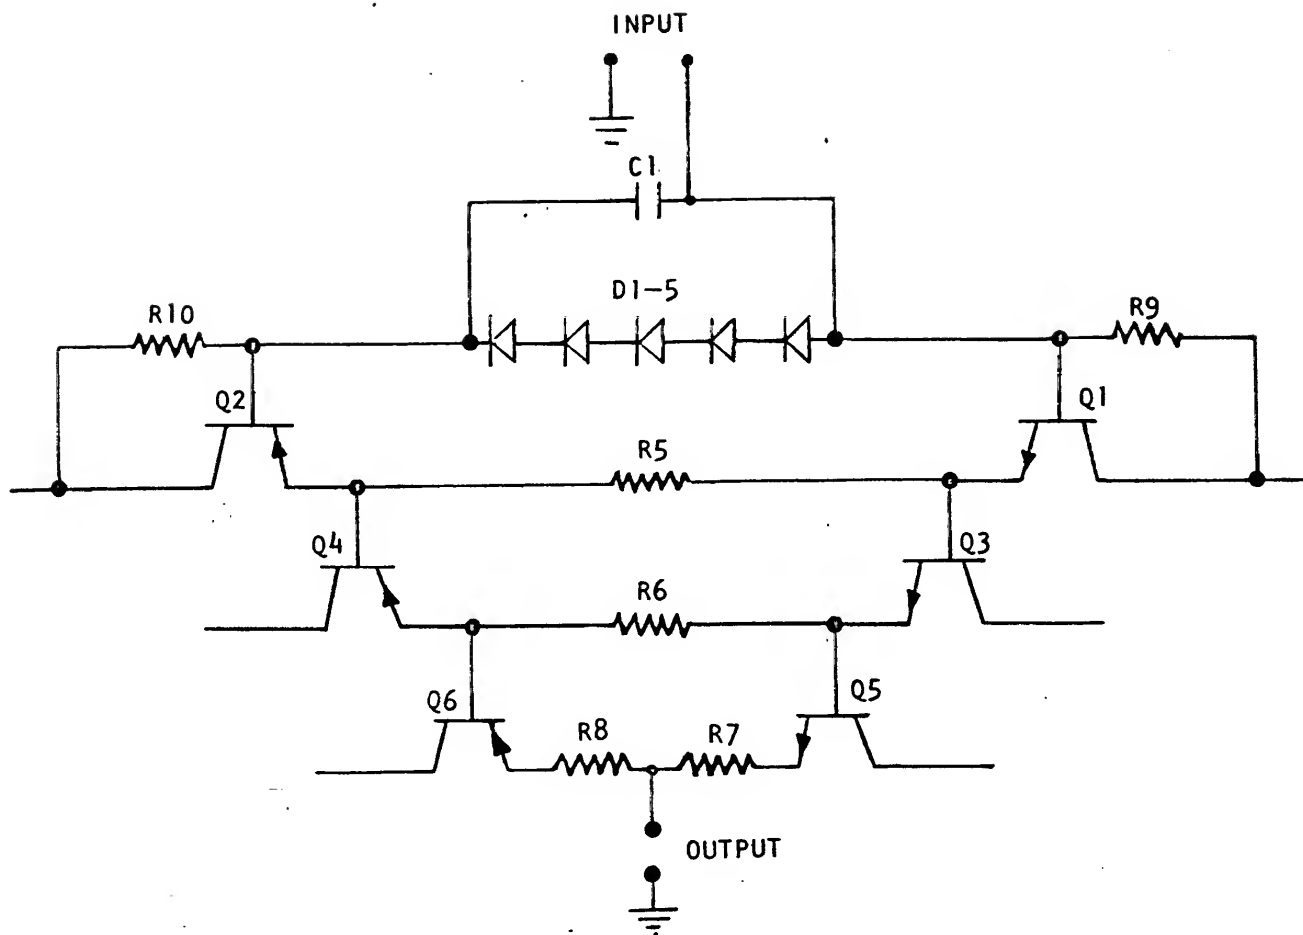

Figure 3-1 BASIC "T" CIRCUIT
Figure 3-1 is a schematic diagram of the Locanthi three-stage cascaded complementary symmetry emitter-follower output circuit, hereafter referred to as a T-Circuit. (Because of its NPN-PNP symmetry, the configuration has the general appearance of the T-Network).
3.2.1.2 THERMAL STABILITY - The output transistors (Q5 and Q6 in figure 3-1) are connected directly to a high current power supply of about ± 37.5 V potential. Each base of the output circuit has a path allowing the collector-to-base leakage current to flow through its opposite driver-stage emitter. It can be seen that suitable collector-to-base leakage current paths are provided for all of the transistors.